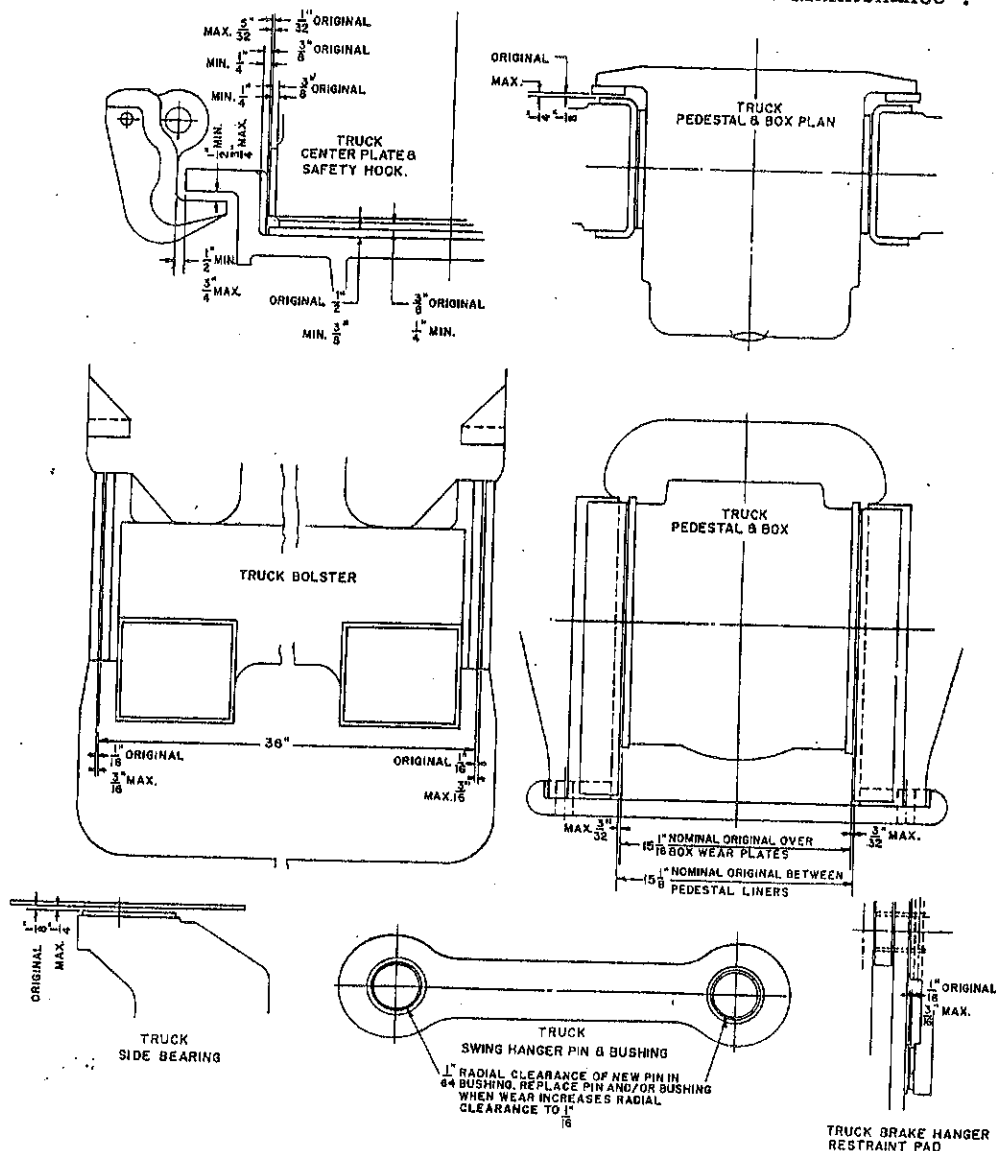

Fig. 9 - CLEARANCES AND WEAR LIMITS
1. The following items should be inspected and compared with Fig. 9 for clearance and wear limits.